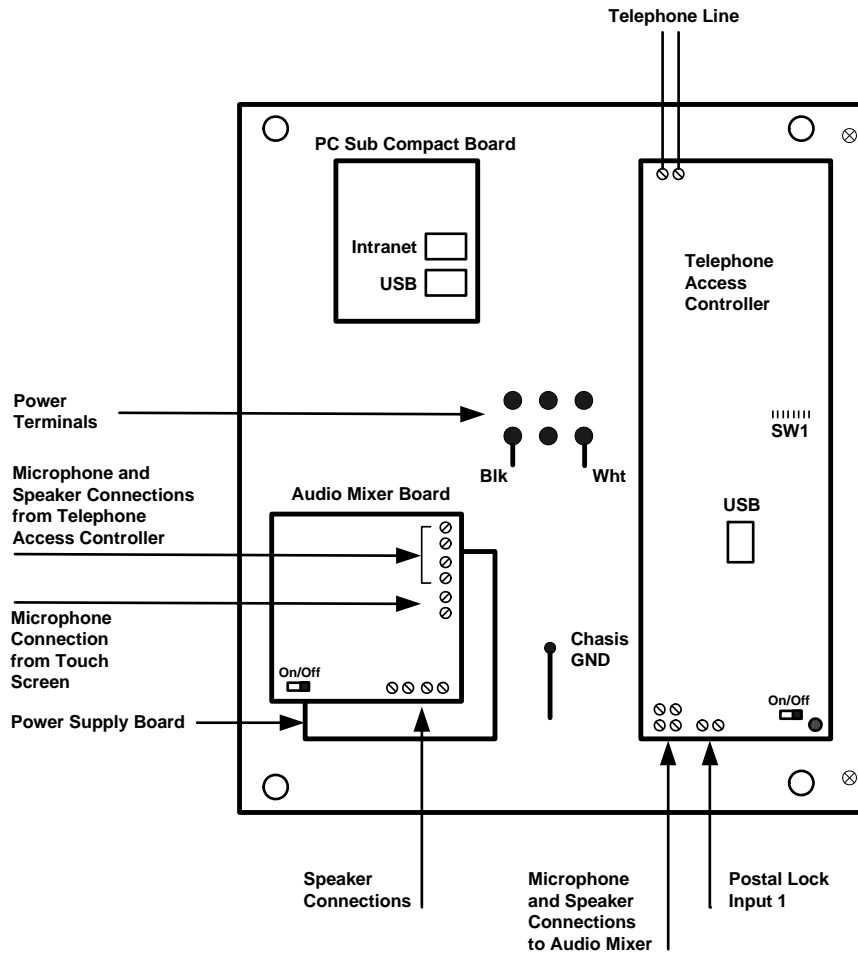

Figure 14. Touch Screen Controller Board Panel
The following Touch Screen controller boards are situated on a panel behind the Touch Screen Panel as shown in Figure 14:
Grounding reduces the risk of electrical shock by providing an alternate escape route for the electrical current. Touch Screen is equipped with a 16 gauge electrical wire attached to the panel chassis ground post as shown in Figure 14.
The power supply terminal block is situated the middle of the Touch Screen Controller board panel as shown in Figure 14 and receives 24 Vdc from the external MD-990 power supply.
3. Connect the MD-990 lode power supply wires to the Touch Screen Controller board panel terminal screws as shown in Figure 14.
The system has a built-in micro switch and mounting hardware for a postal lock installation. If postal service is required, contact the Post Office to obtain the lock. Figure 14 shows the micro switch input terminal for the postal lock.
The system is shipped already pre-wired. Before turning on the system it is important to verify that the following connections are firmly in place. Refer to Figure 14.
Ensure that the Telephone Access Controller ID is setup. This address is set by the SW1 DIP switches on the Telephone Access Controller (Figure 14). The individual switches are numbered 1 to 8 from left to right, and are marked as either ON or OFF. The first five switches (1, 2, 3, 4 and 5) set the address ID.